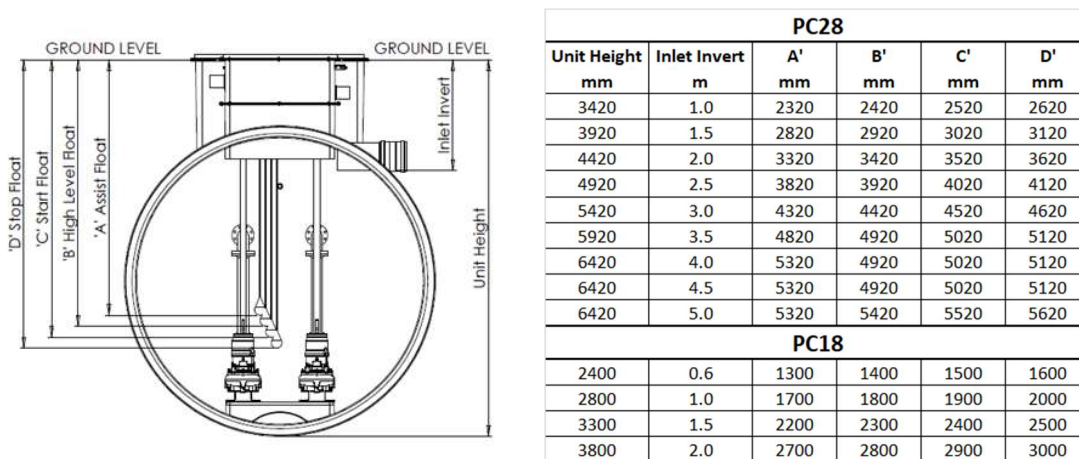

Figure 9
- 4.25. Thread the Float cables through the cable grommets in the mounting bracket located in the top of the 1.0m x 0.6m or 1.5m x 0.9m neck **(Fig 8)**. Set floats to the operational heights shown on drawing below **(Fig 9)**.